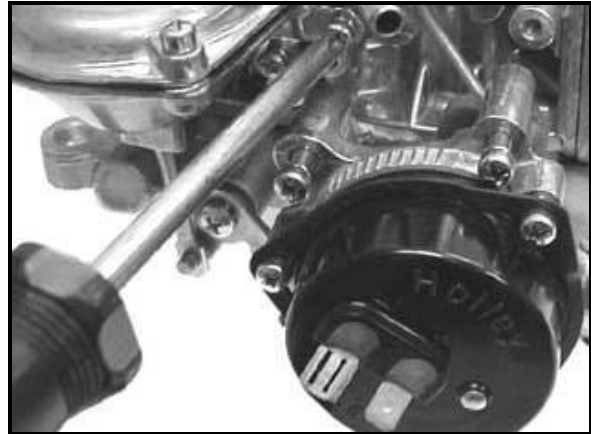

Figure 16
2. Remove three screws attaching secondary vacuum diaphragm to the main body (Figure 16).